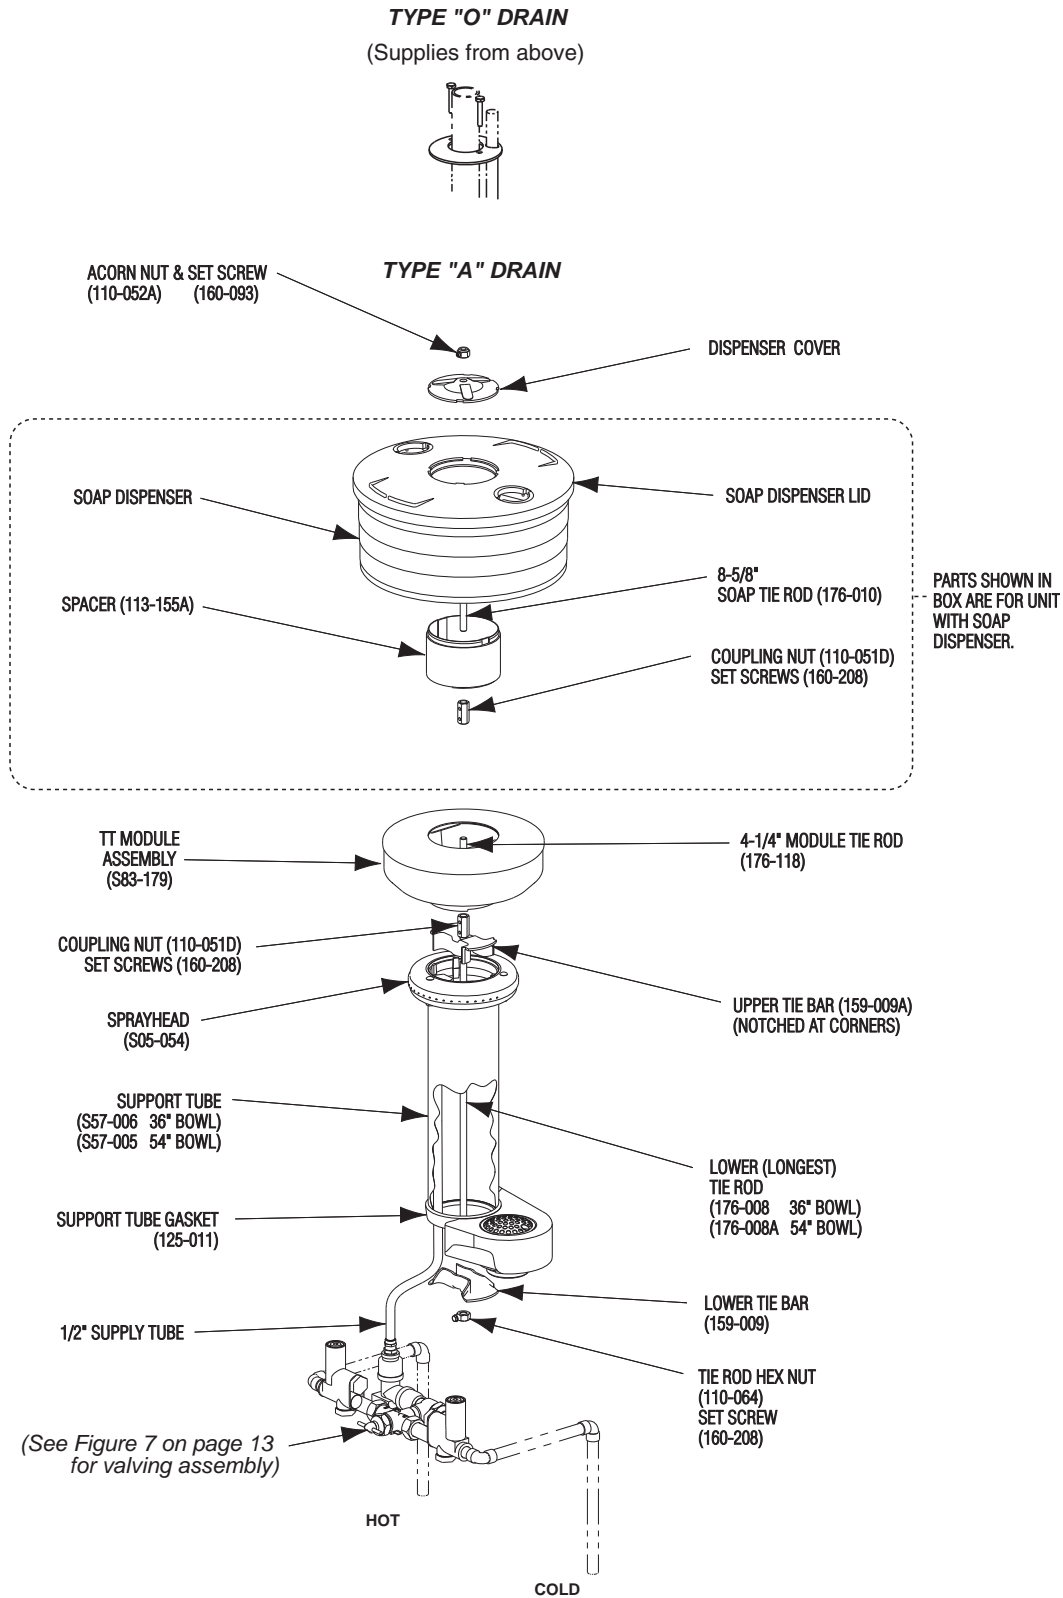

Figure 5
1. Install hemmed end (not sharp end) of support tube with gasket onto bowl as shown in Figure 5 on page 10.
3. Place sprayhead with 1/2" tubing onto support tube as shown in Figure 5 on page 10. Run tubing down through support tube.
4. Assemble the lower tie rod (the longer threaded rod), upper tie bar (notched at corners), lower tie bar, tie rod nut, and coupling nut, then attach the 4-1/4" tie rod to coupling nut as shown in Figure 5.
- 7a. **FOR UNITS WITH SOAP OPTION:** Install the spacer, soap dispenser and cover using the coupling nut, soap tie rod (8-5/8" long) and second coupling nut as shown (see Figure 5). Secure with acorn nut and socket head set screw.